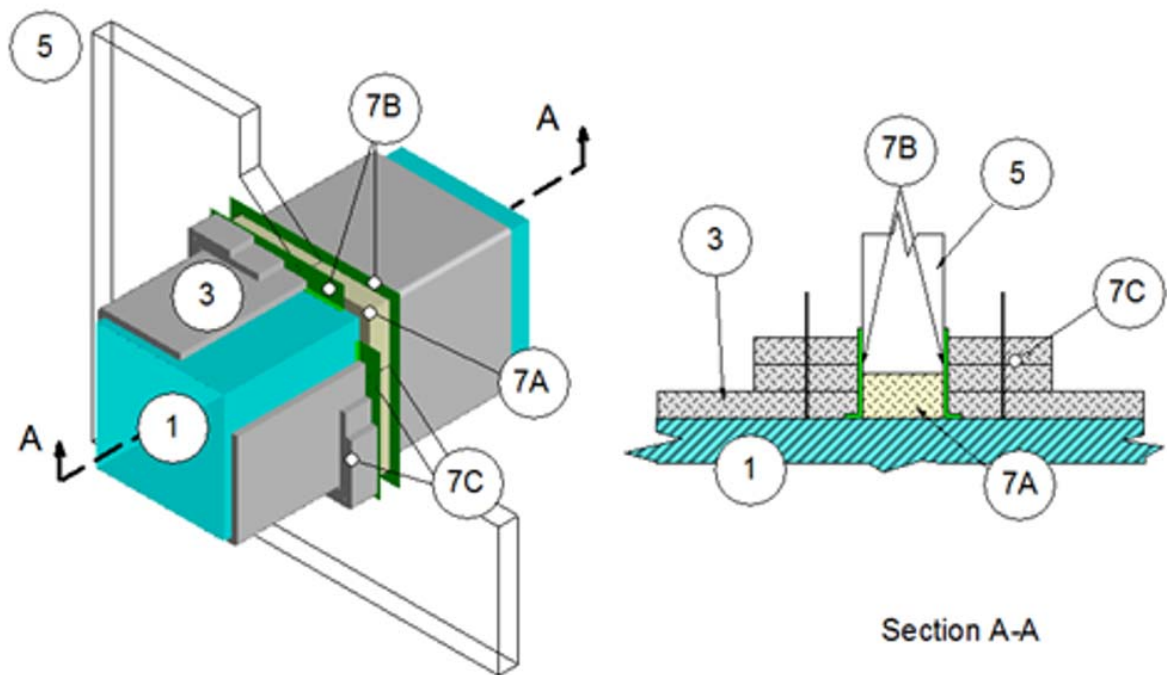
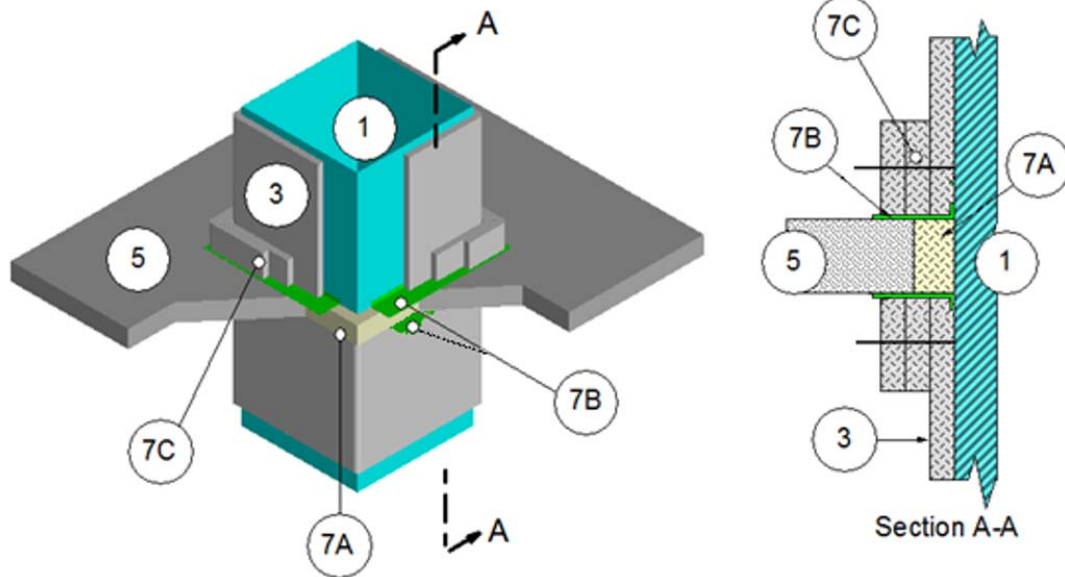

Figure 5. Penetration Assembly, Duct Through Wall
Figure 6. Penetration Assembly, Duct Through Floor/Ceiling
- B. STEEL FLASHING:** Use min. 18 GA steel flashing bent at a 90-degree angle with a 1 in. and a 4-1/2 in. leg. Butt the 1 in. leg of the flashing to the ventilation air duct (Item 1) with min. 1/4 in. bead of 100% silicone sealant between the flashing and the ventilation air duct (Item 1). Secure the 1 in. leg of the flashing to the ventilation air duct (Item 1) with #10, 1 in., self-tapping screws. Locate screws 1 in. from either end of the flashing and space remaining fasteners max. 8 in. oc. Butt the 4-1/2 in. leg of the flashing to supporting construction with two, min. 1/4 in. beads of 100% silicone sealant between the flashing and the supporting construction. Attach the 4-1/2 in. leg to the supporting construction using 1/4 in. by 1-1/4 in. long, Tapcon concrete anchors for concrete floors, or #10 self-tapping screws for steel stud framed walls, spaced 1 in. from the ends and max. 8 in. oc in between. Use steel flashing on both sides for wall assemblies (Figure 5), and on the top and bottom sides for floor/ceiling assemblies (Figure 6).